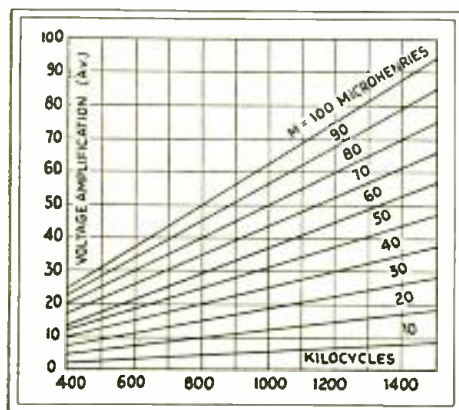
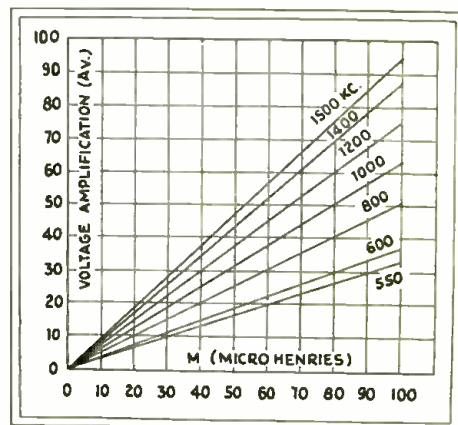

Fig. 3
Fig. 4
*The curves of amplification here correspond to those of Fig. 3; but are plotted against frequency, to show the greater efficiency at the low-wave end of the broadcast band.*
In Fig. 3 we have curves which show the relation between the mutual inductance of the transformer and the voltage amplification obtained at different frequencies. The value of the coil's dissipation constant  $Q$  (which is  $6.28 \times f \times L/R_2$ ) is here assumed to be 100; which is a fair value for commercially-designed coils of good quality. On the basis, it can be seen from Fig. 3
Another thing, which Fig. 3 teaches us, is that the voltage amplification increases as we increase the frequency. This can, perhaps, be seen more clearly by plotting the curves in a different manner, as in Fig. 4; here the voltage amplification is shown plotted against the frequency, for various values of mutual inductance. For example, if the mutual inductance is 50 microhenries, we can expect a gain of 32 per stage at 1000 kc. as before. However, if we keep the
This means that, if we plotted the curves of Fig. 4 for three stages instead of one, we should find the curves very much steeper; and the difficulty which designers find in R.F. amplifiers would be more obvious. In a three-stage amplifier, the R.F. amplification at 1500 kilocycles may be as high as three to five times that obtained at 550 kilocycles; or even more, depending upon the particular design. It is on this account that attempts have been made to design R.F. transformers which will give reduced amplification at the higher frequencies, and greater amplification at the lower frequencies.
This being the condition—that the coupling between the primary and secondary must be loose—it is clear that the way in which the amplification varies with frequency will depend mainly upon the design of the primary circuit. Returning to Fig. 3, it will be obvious that the amplification is dependent upon the mutual inductance between the primary and secondary. Hence, if we can make this mutual inductance vary in any way which we desire, we may likewise be able to control the amplification accordingly.